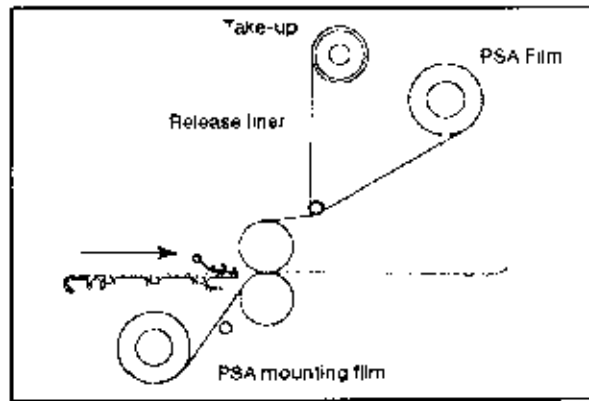

Fig. 6-16. Laminator Loaded for Decaling the First Pass with Film (Poly-in Shown)
1. Load the laminator as shown in Fig. 6-16.